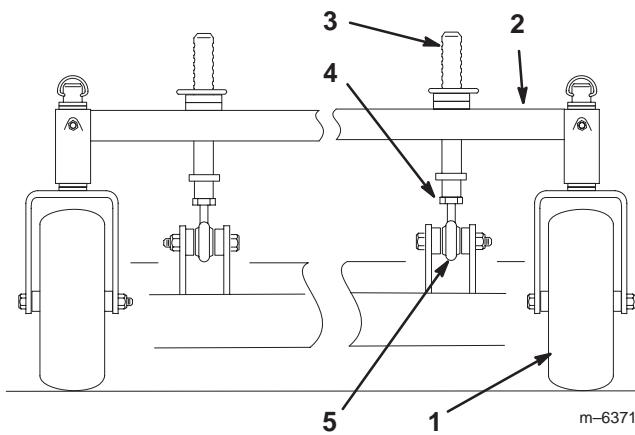

Figure 56
1. To change the front-to-rear pitch, the front height-of-cut posts can be adjusted (Fig. 56).
2. To raise the front of the deck, loosen jam nut and rotate the front pin clockwise (Fig. 56).
3. To lower the front of the deck, loosen jam nut and rotate the front pin counter clockwise (Fig. 56).
6. Tighten the jam nuts (Fig. 56).